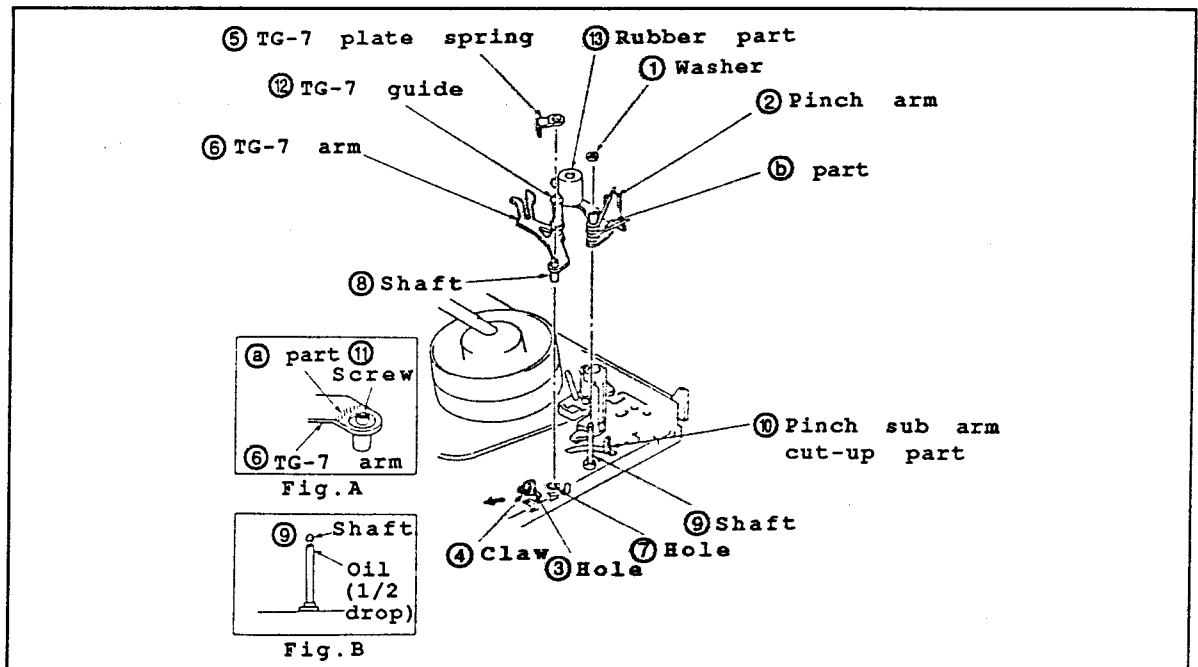

Fig.II-14
• Disassembling (Fig.II-14)
- (1) Set the unloading state.
- (2) To take off the pinch arm ②, remove the washer ①.
- (3) To detach the TG-7 plate spring ⑤, bend the claw ④ of hole ③ by using a thin screwdriver or equivalent.
- (4) Detach the TG-7 arm.
• Reassembling (Fig.II-14)
- (1) Apply the grease on the inside and the bottom surface of the hole ⑦.
- (2) Insert the shaft ⑧ of TG-7 arm ⑥ to the hole ⑦.
- (3) Apply the grease on the shadowed area (a). (Fig.A)
- (4) Insert the TG-7 plate spring ⑤ to the hole ③.